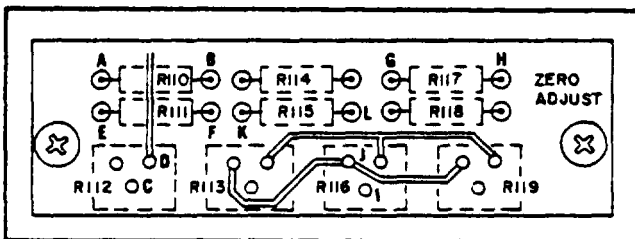

Figure 5-10. "ZERO ADJUST" Section of Main circuit Board
- Connect decade resistance box between pads of position marked for resistor R110 in "ZERO ADJUST" section of main circuit board (points "A" and "B" in Figure 5-10; also see Figure 7-10).
- Solder jumper between "wiper" pad and "+12.4V" pad of position marked for potentiometer R112 in "ZERO ADJUST" section of main circuit board (points "C" and "D" in Figure 5-10; also see Figure 7-10).
- Connect decade resistance box between pads marked for resistor R111 in "ZERO ADJUST" section of main circuit board (points "E" and "F" in Figure 5-10; also see Figure 7-10).
- c. Connect decade resistance box between pads of position marked for resistor R117 in "ZERO ADJUST" section of main circuit board (points "G" and "H" in Figure 5-10; also see Figure 7-10).
- b. Solder jumper between "wiper" pad and "-6.2V" pad of position marked for potentiometer R116 in "ZERO ADJUST" section of main circuit board (points "I" and "J" in Figure 5-10; also see Figure 7-10).